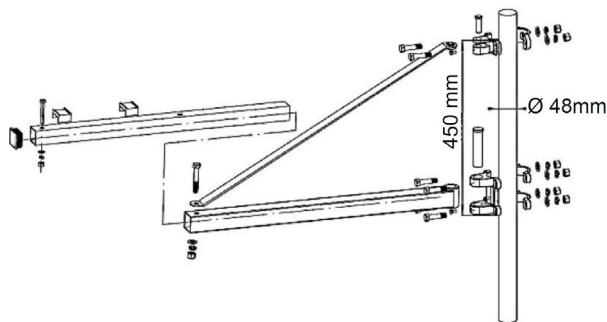

Fig. 6: Mounting the swivel arm
Step 2: Then insert the swivel arm into the lower element and screw it to the upper cross brace as shown in Fig. 6.